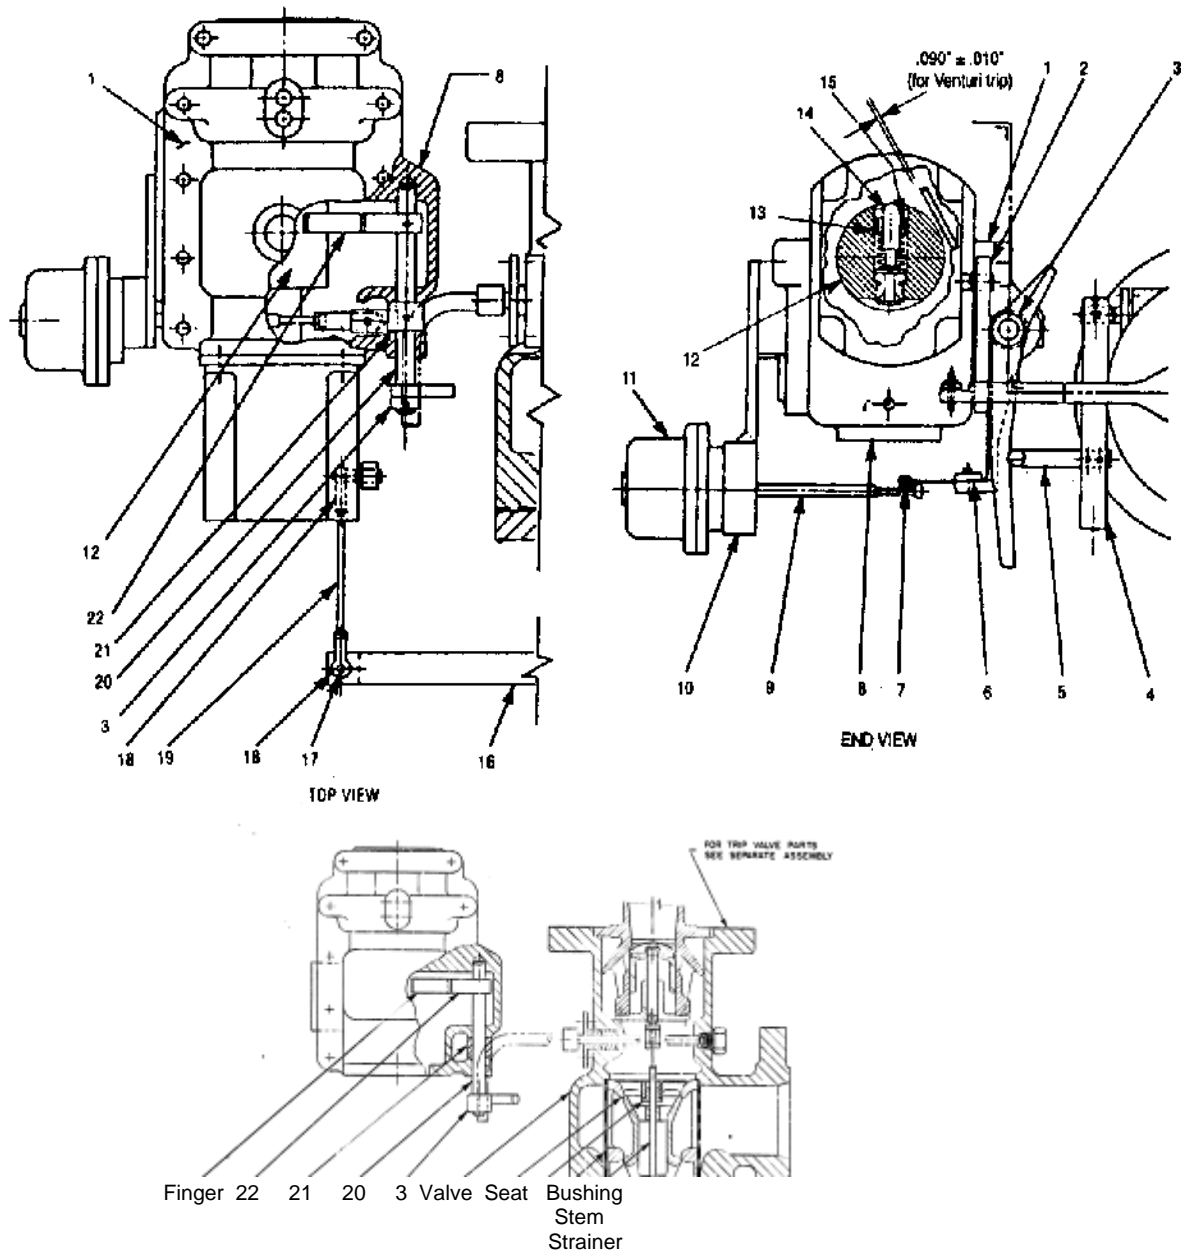
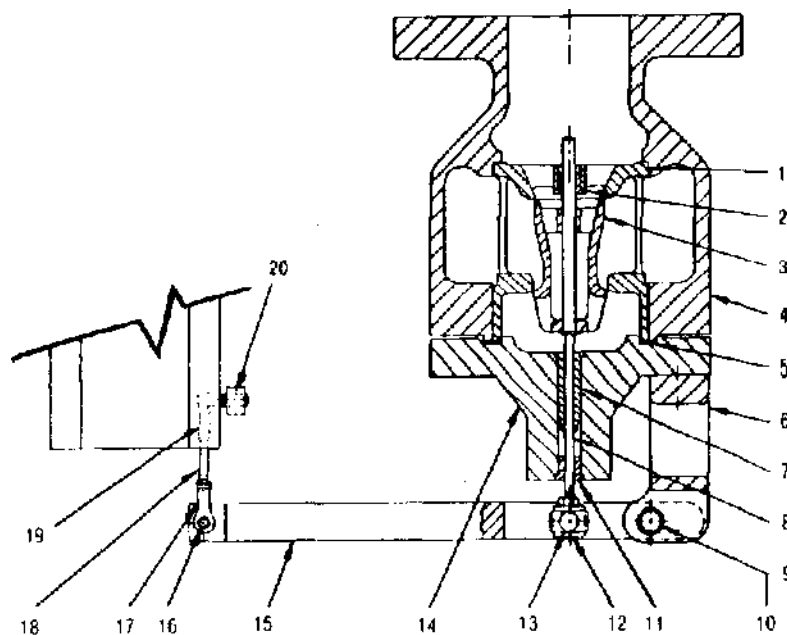
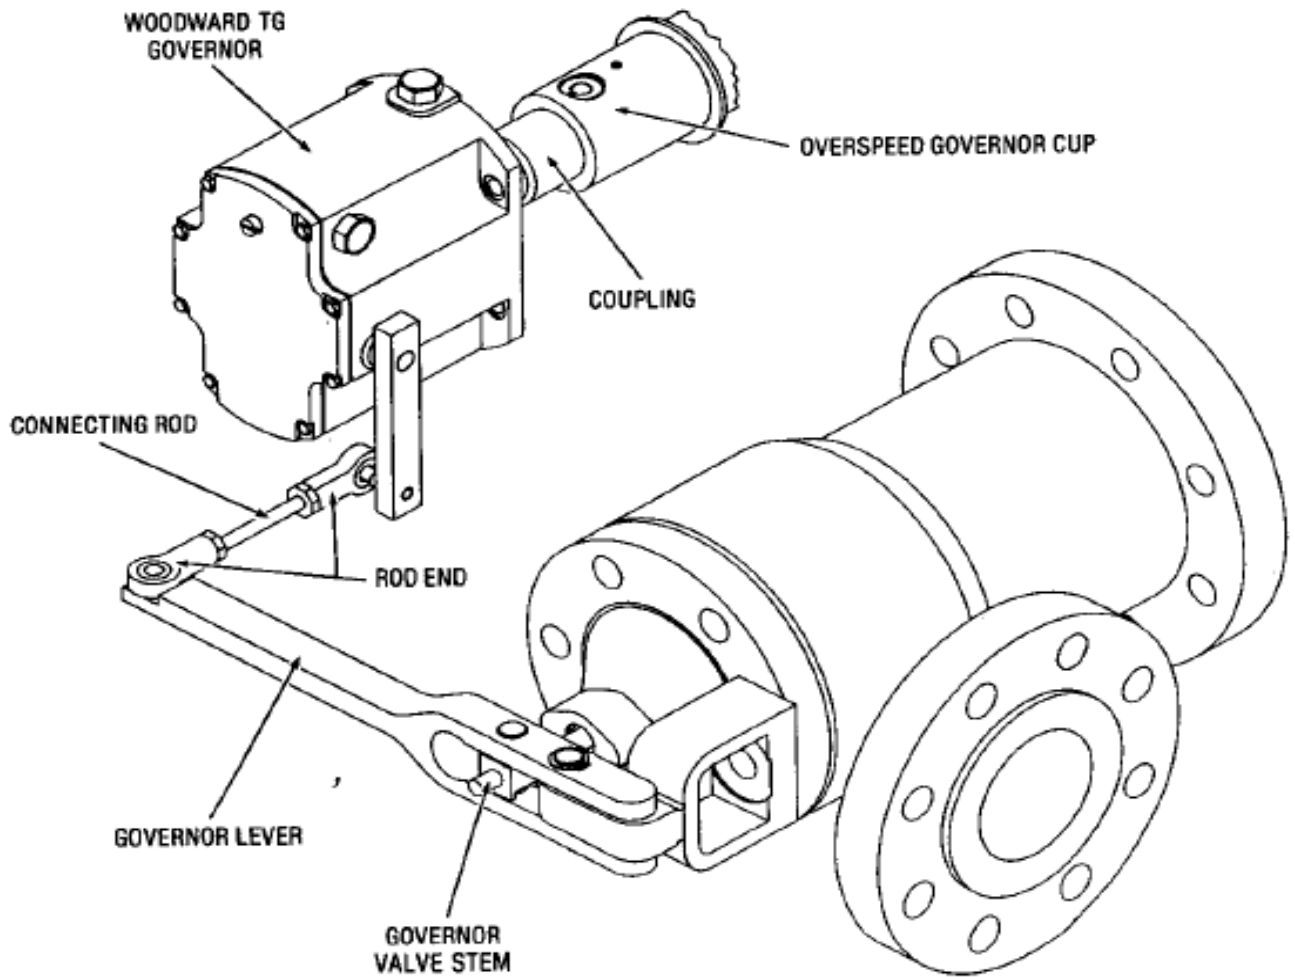

Figure L-13. Overspeed and Governor Valve Linkage
Figure L-14. Throttle Valve Linkage
Figure L-15. Governor Valve Travel Setting – Woodward TG Governor
- a. Check that the governor linkage is approximately at right angles to governor connecting rod. (See upper view of figure L-13). Adjust the length of the connection rod as necessary.
governor valve or the steam strainer, proceed as follows: (See Figure L-14).
- a. Remove pin that connects the governor lever to the connecting rod end. (See Figure L-15.)
- b. Manually rotate the turbine shaft (1) until the lock screw (P/N 15, Figure L-13 or P/N 92, Figure L-15) is accessible; then loosen the lock screw.
For 4" and 6" trip and throttle valve systems, the clearance between the overspeed trip lever (Figure L-13) and the emergency weight (P/N 14) or (P/N 93 in Figure L-14) is properly set at the factory for 0.060"/1.524mm plus or minus 0.010"/0.254mm. Gain access to the over-speed governor cup as described in the preceding section L.14.1.
For 4" and 6" Venturi trip systems, the clearance between the over-speed trip lever (figure L-13) and the emergency weight (P/N 14 or P/N 93) is properly set at the factory for (0.090"/2.286mm plus or minus 0.010"/0.254mm. Gain access to the overspeed governor cup as described in section L.14.1.
- a. Unlatch valve lever (P/N 3, Figure L-13) to close emergency valve.